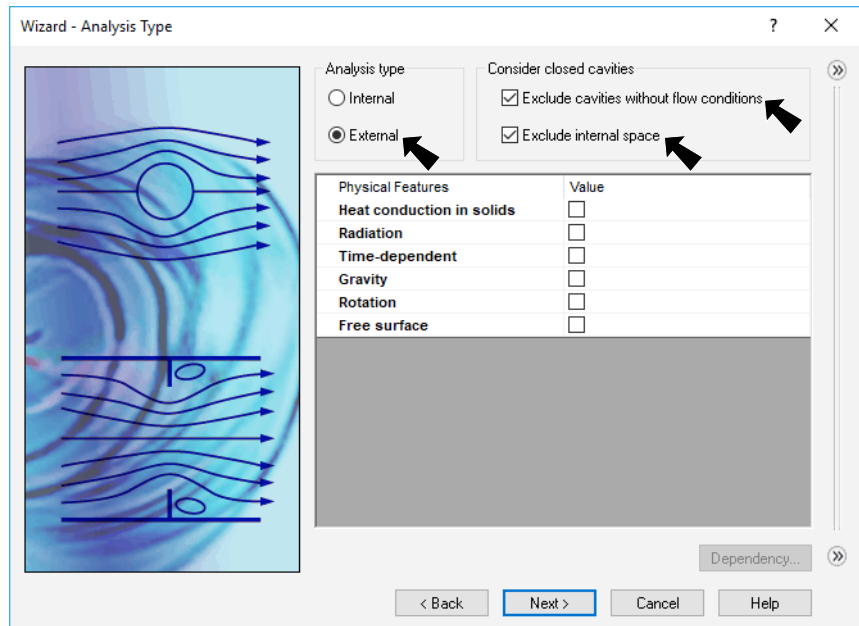

Fig. 5
Step 9. **Analysis Type:** Under Analysis type, select **External**, **Fig. 5**.
Step 10. Check **Exclude cavities without flow conditions** and **Exclude internal space**, **Fig. 5**.